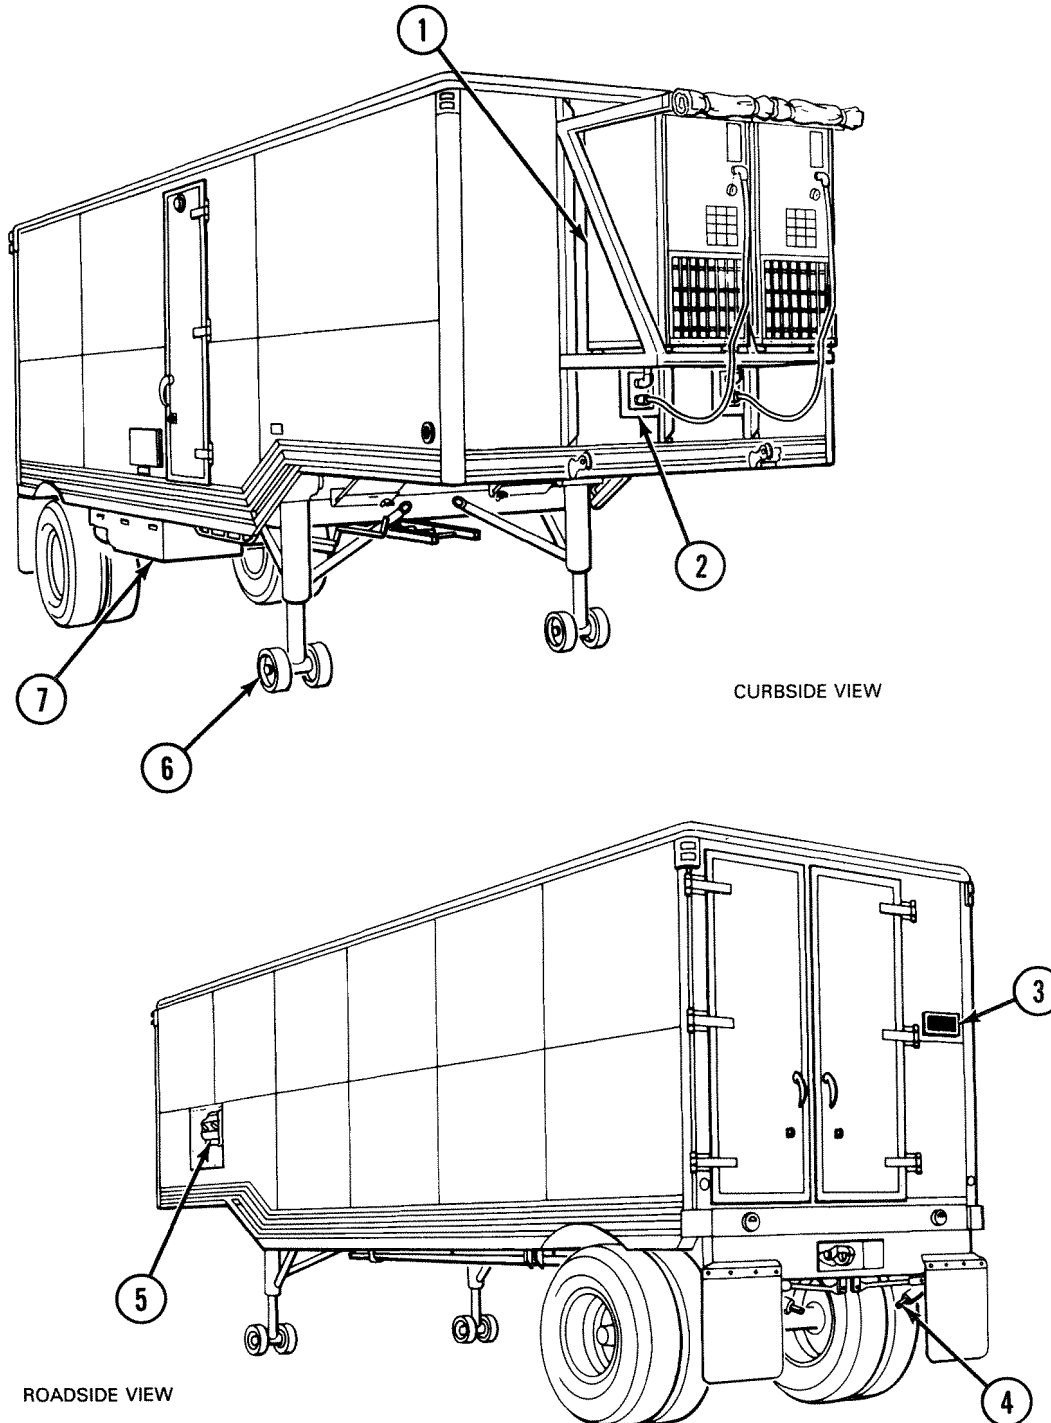

Figure 2-37. P&P Shop Major Exterior Features
a. *Exterior Features.* Figure 2-37 shows P&P shop major exterior features.